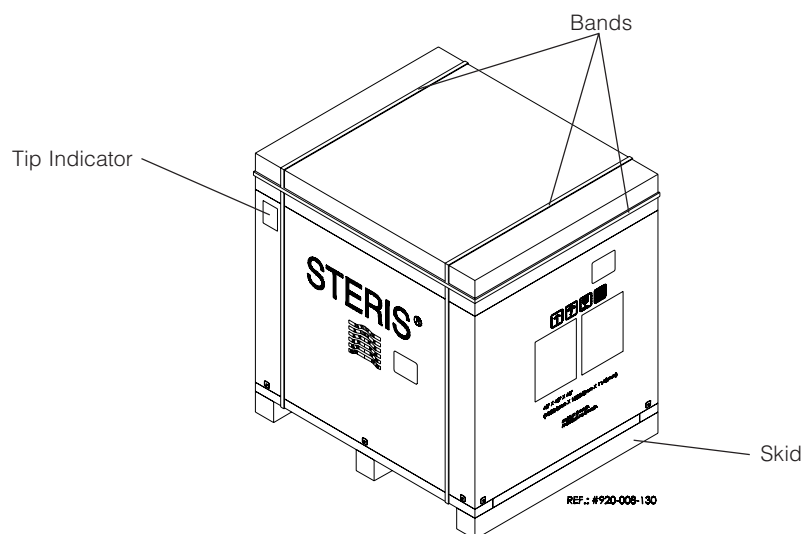

Figure 2-1. Crate
Amsco Reliance 333 Washer/Disinfector (Figures 2-1 and 2-2)
1. Verify tip indicator, located on upper left side of crate (see Figure 2-1). Tip indicator contains a blue compound at the bottom of the indicator. If unit has been tipped, residue from the blue compound will be found higher up in the indicator.
3. Carefully cut and remove bands from crate (see Figure 2-1). Discard bands before continuing.